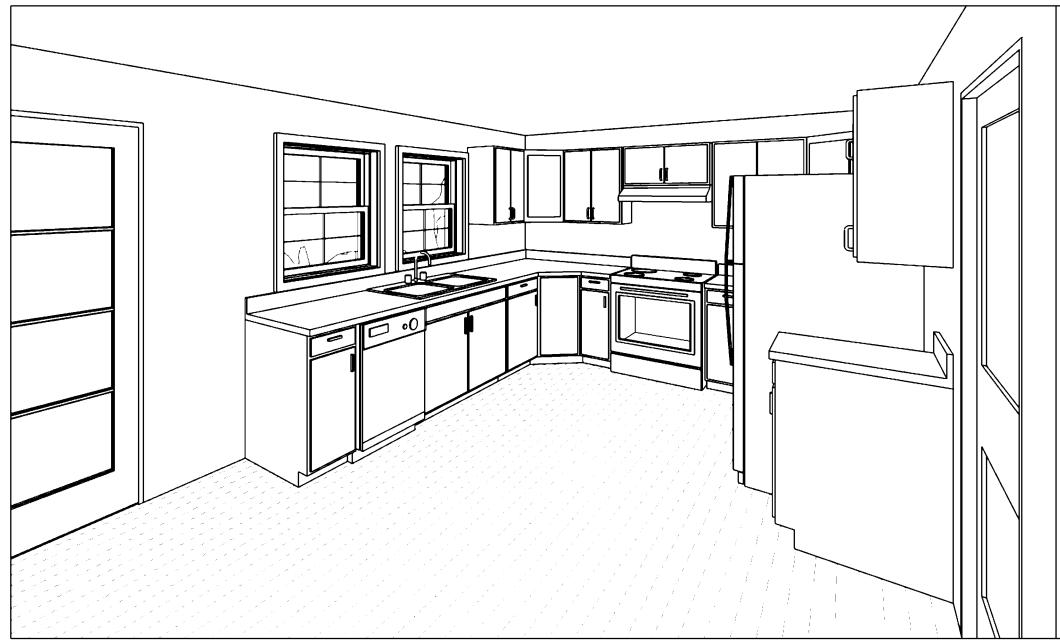

FIGURE 14-4.3 Modified interior camera
5. Using the **Crop Region** rectangle, modify the view to look like **Figure 14-4.3**; select it and then drag the grips.